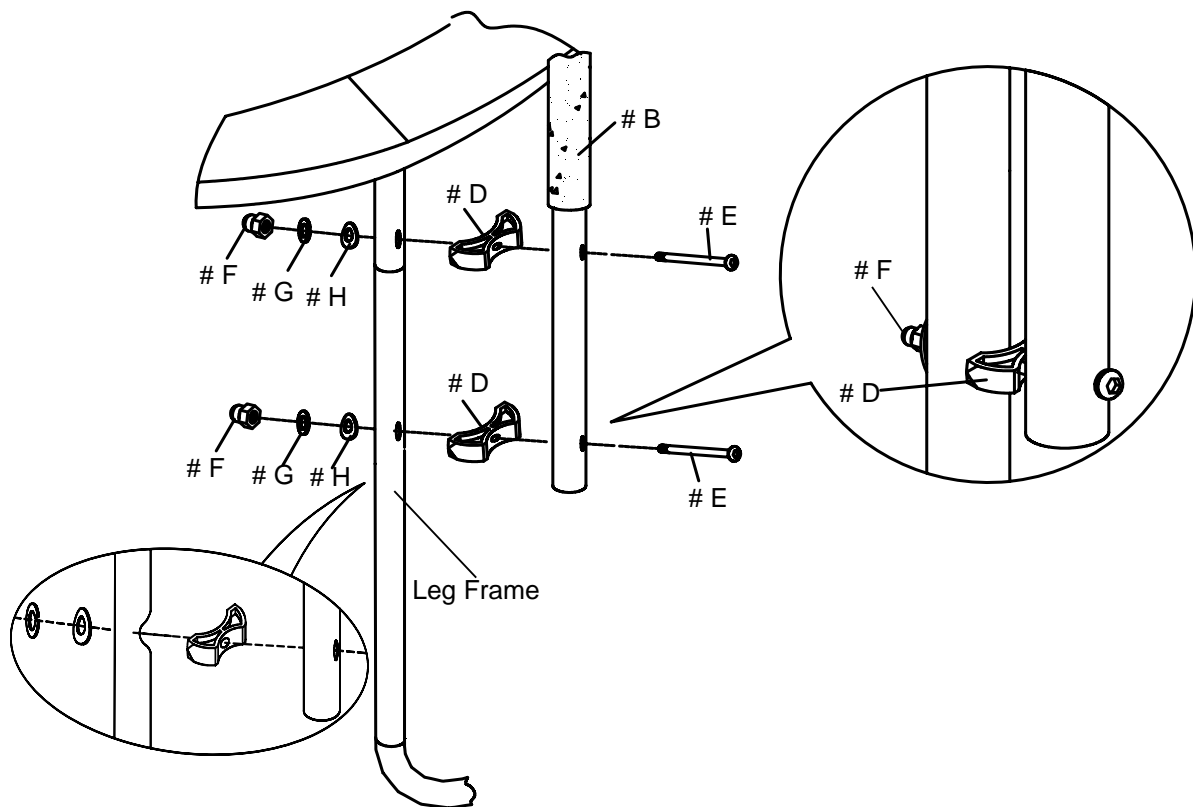

FIGURE 15
- A. Attach Screw (# E) to the Lower Frame Tube with Foam (# B) and Gap Spacer (# D), then to the LEG FRAME of the trampoline, secured by using Arc Washer(# H), Spring Lock Washer (# G) and Cap Nut (# F) as shown in FIGURE 15. Please be sure smaller arc of the Gap Spacer (# D) faces the Lower Frame Tube with Foam (# B) and the Gap Spacer should be located between Lower Frame Tube with Foam (# B) and LEG FRAME. Repeat this step for all frame tube sets.